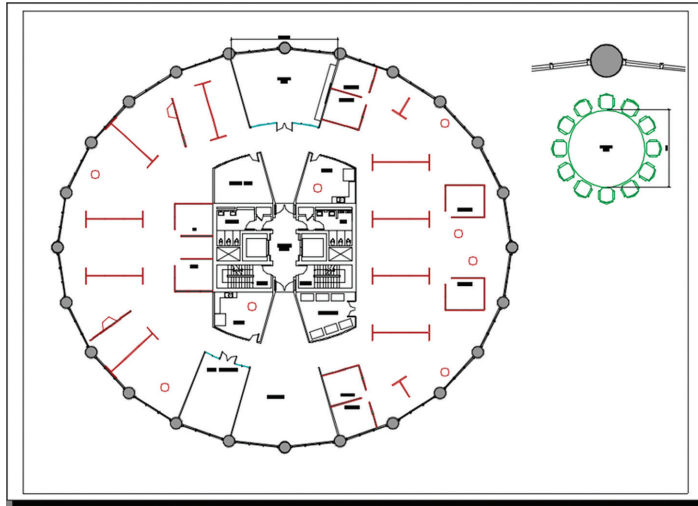

FIGURE 13.24 Plot preview of Layout2
10. Select the Output tab on the ribbon and click the Preview tool in the Plot panel. What you now see is what you would get if you published this drawing (see Figure 13.24). Press Esc to exit the preview.